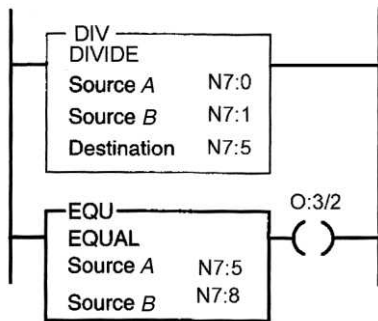

Figure 11-21 Program for question 13.
13. For the program of Figure 11-21, assume output O:3/2 is energized and the values of the numbers stored in words N7:0 and N7:1 are 500 and 40, respectively. The value of the number stored in word N7:8 would be _____.